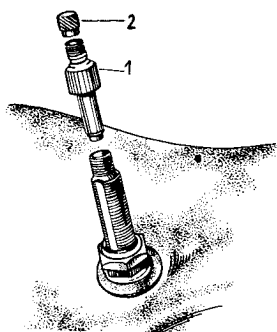

Fig. 58
2. Deflate the air completely and unscrew the valve air part (Fig. 58/1).
4. After filling-up same with the liquid screw on the valve air part (Fig. 58/1) and inflate the tyres to the prescribed pressure (Page 31).
Finally, screw on the protection cap (Fig. 58/2) to the valve.